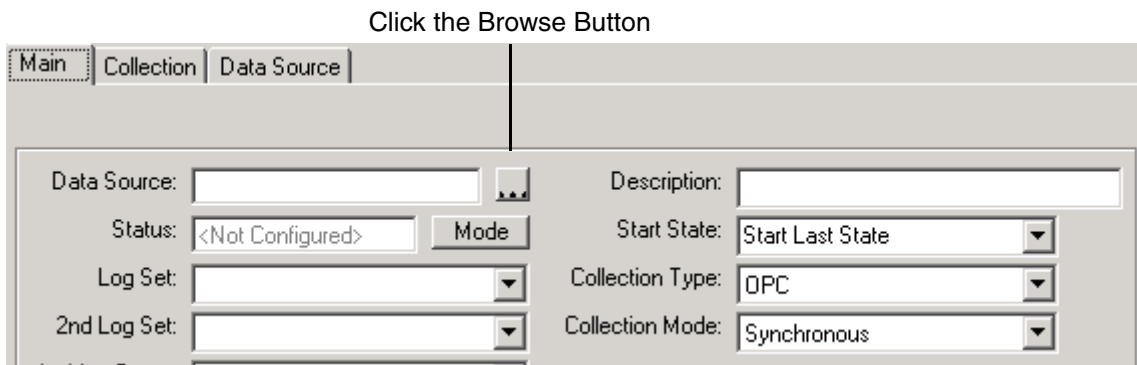

Figure 200. Browse Button for Data Source
1. Click the browse button for Data Source, Figure 200.